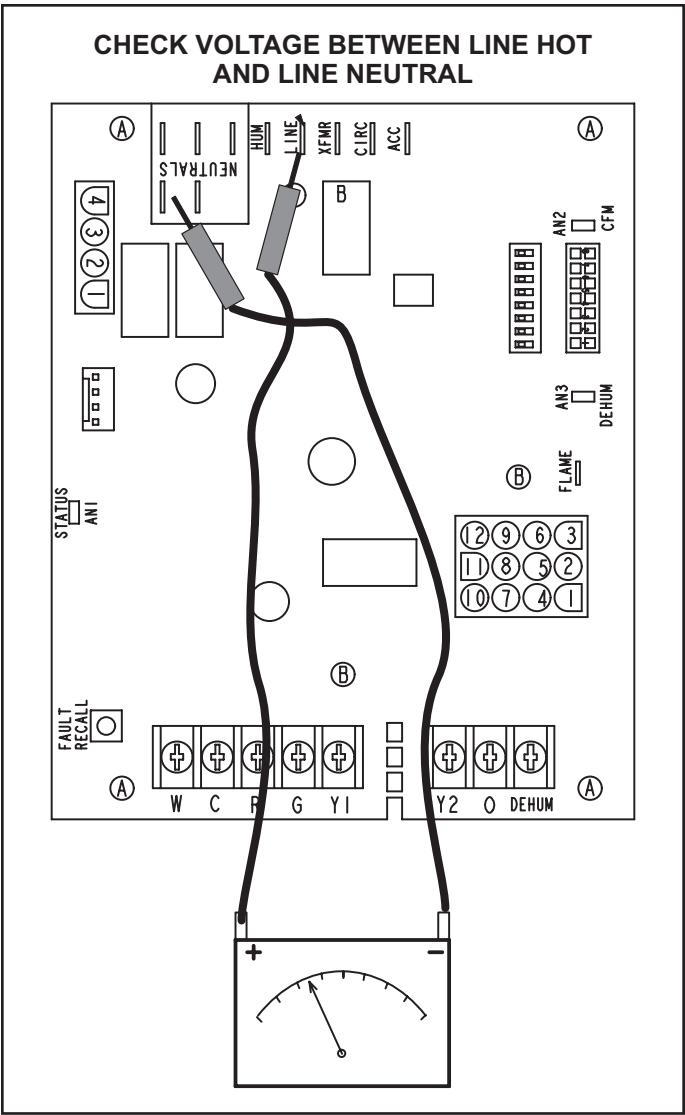

Figure 22.
- 2. In addition, measure the AC voltage from Line Hot to Line Neutral (spade terminals) on the integrated control. See Figure 22. This voltage should be in the range of 97 to 132 VAC